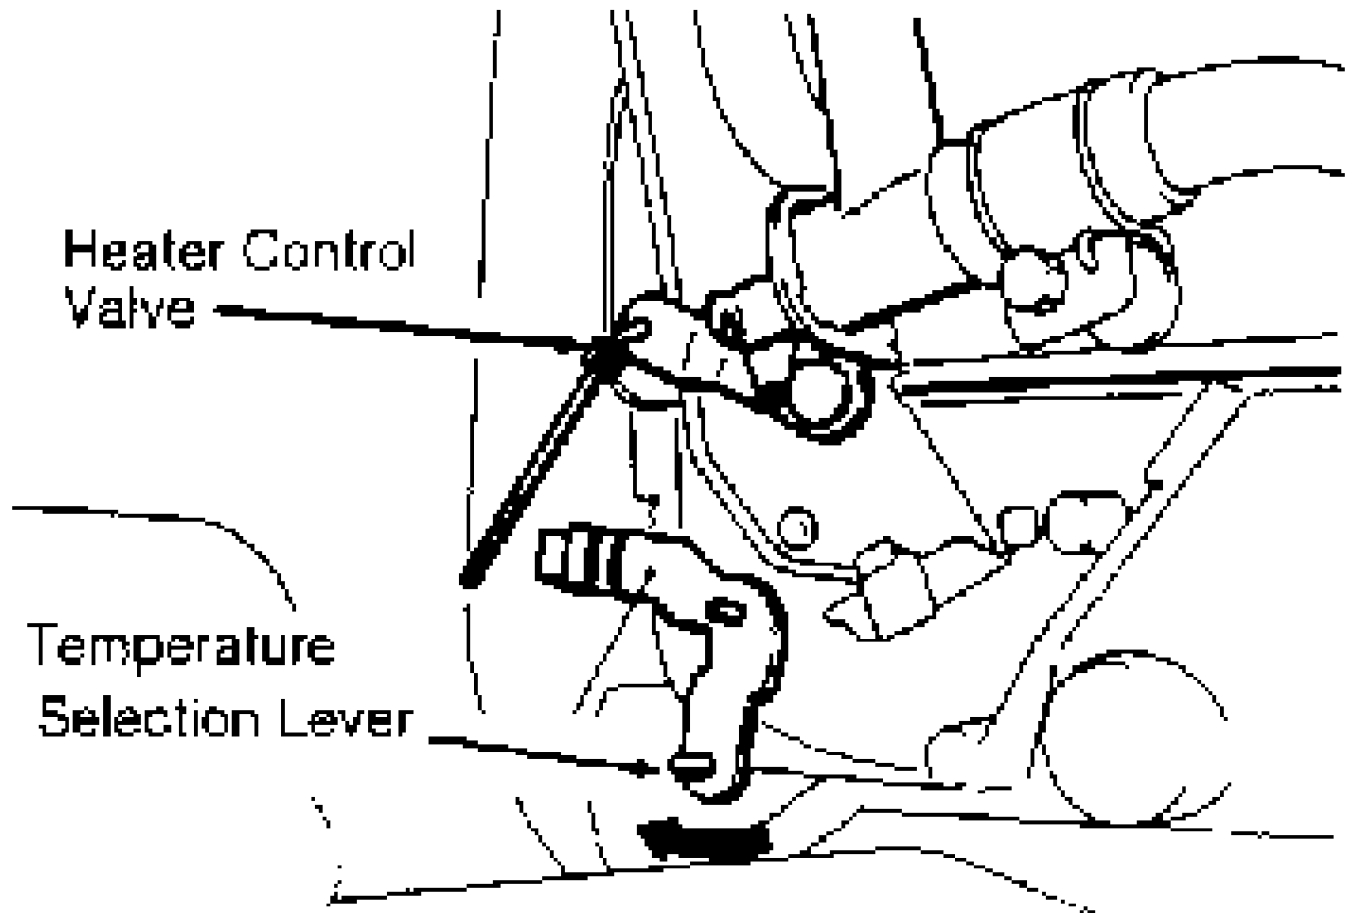

Fig. 3: Adjusting Temperature Selection Cable (Montero)
2) Move blend door lever downward in direction indicated by arrow. See Fig. 3. Connect inner wire to lever, and secure outer housing using clip. Adjust heater control valve wire so valve is fully closed. Operate mode control knob to ensure proper operation. Reinstall heater control valve cover.